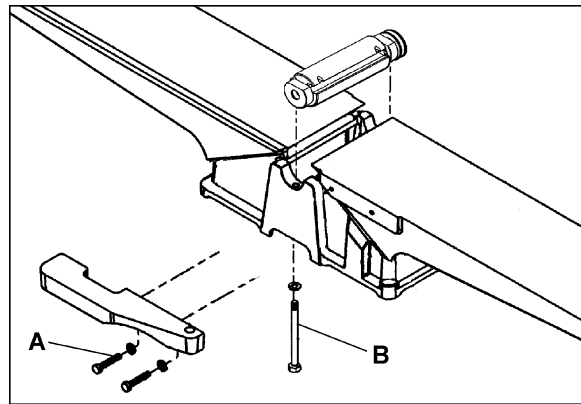

Figure 39
7. Remove rabbeting ledge by loosening the two hex cap screws and washers (A, Figure 39).
8. Loosen the two bolts (B, Figure 39) that secure the cutterhead to the bed – these are accessed from the underside of the bearing blocks.